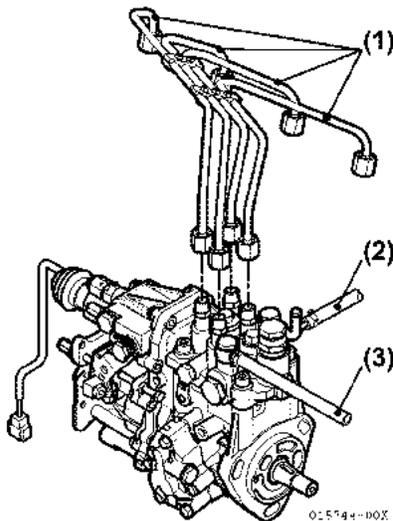

Figure 6-28
5. Remove the high-pressure fuel injection lines as an assembly (Figure 6-28, (1)).
8. Disconnect the fuel return lines from the fuel return fitting (Figure 6-28, (2)). Plug the open ends of the lines to minimize leaks and prevent contamination.
9. Remove the fuel supply line (Figure 6-28, (3)). Plug the open end of the line to minimize leakage and prevent contamination.